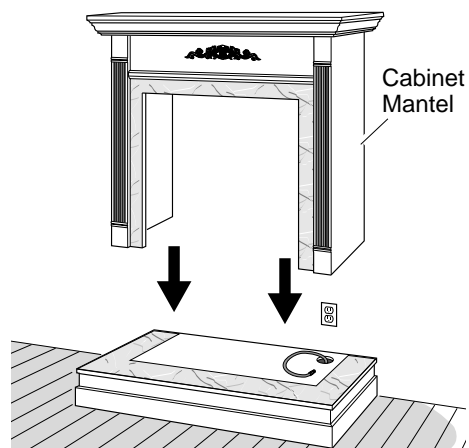

Figure 10 - Installing Cabinet Mantel
- Center cabinet mantel on hearth base (see Figure 10). Make sure mantel is flush against wall.